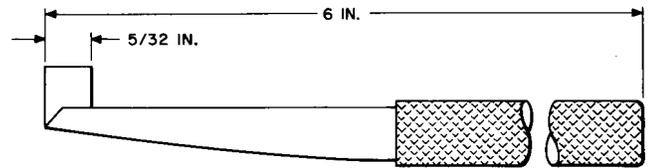

Fig. 11—R-2142 Adjuster Tool
2.11 **R-2142:** The R-2142 adjuster tool (Fig. 11) is used on sequence switches and the 157-type interrupters.